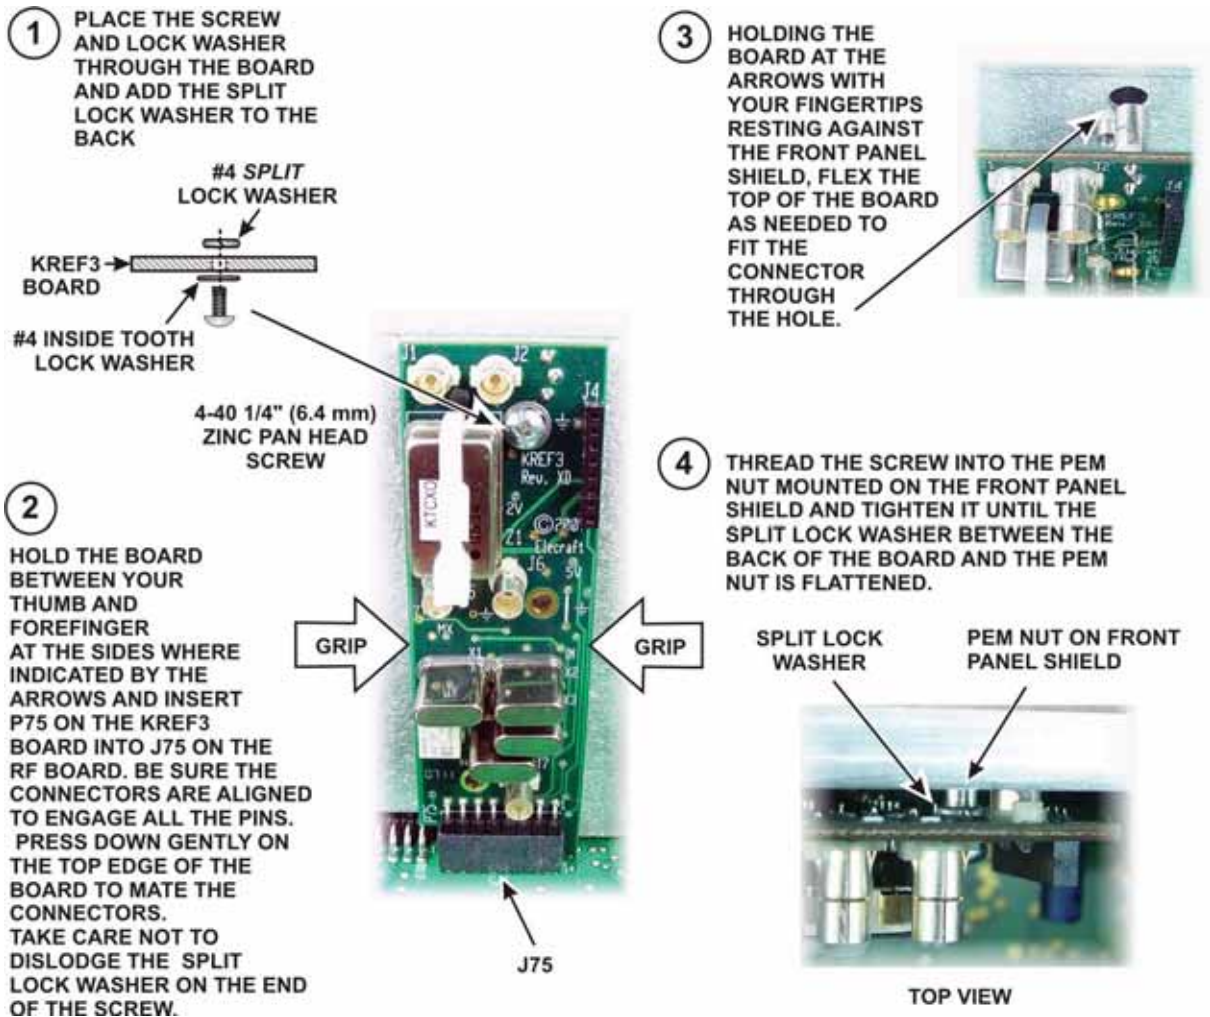

Figure 70. Installing KREF3 Board.
- Install the KREF3 board on the back side of the front panel shield as shown in Figure 70. The board plugs into J75 just behind the shield. **Be certain you use a split lock washer between the KREF3 board and the PEM nut attached to the shield. An inside tooth washer may short out nearby circuit traces.**